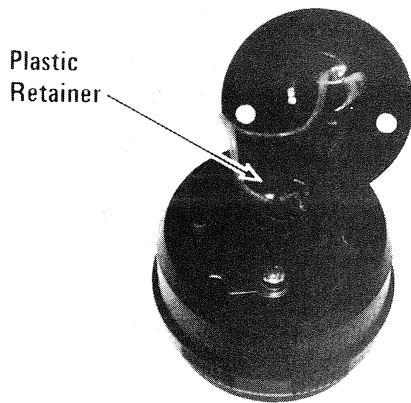

Figure 3-16. Removing the Plastic Retainer
- B. To remove photo diode Q4, pry off plastic retainer with thin blade and desolder leads. Figures 3-16 and 3-17.